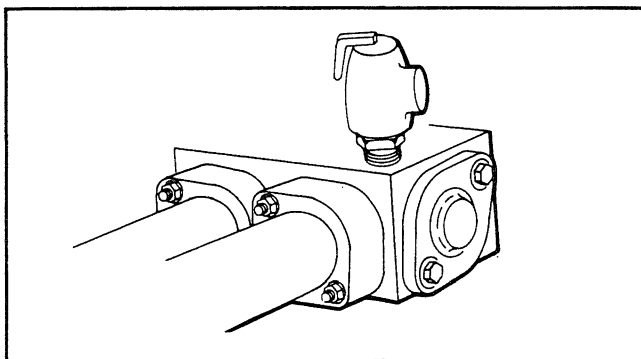

Figure 14. Pressure Relief Valve
**NOTE:** A 2" x 1-1/2" threaded adapter is required to connect 1-1/2" threaded pipe to the heater. See Figure 14 for connection details.
To install a pressure relief valve, replace the 3/4" brass plug on top of the header with the valve (see Figure 14). The pressure relief setting of the valve should be at or below the lowest working pressure of any component in the filter system.